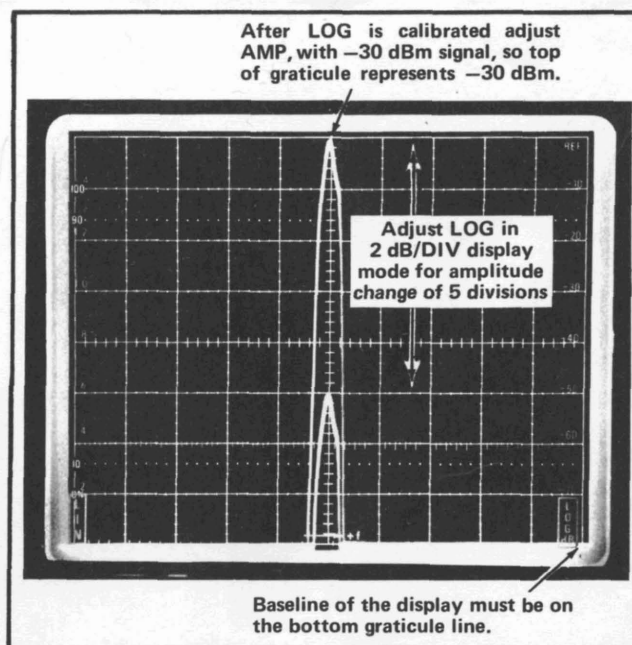

Fig. 2-4. Calibrating the LOG and REFERENCE LEVEL of the display (Double exposure to illustrate the two displays with reference to each other).
d. Adjust the AMP CAL and the LOG CAL (if necessary) to bring the 50 MHz signal within the graticule window. Adjust the AMP CAL to establish a signal reference amplitude of 8 divisions (Fig. 2-4 shows a full screen display).
h. Repeat these steps until the 2 dB/DIV LOG display is calibrated (see Fig. 2-4). Return the RF Attenuator to 0 dB (REFERENCE LEVEL -30 dBm), then adjust AMP CAL to position the top of the -30 dBm signal on the reference line. Ensure that the -30 dBm signal is 8 divisions in amplitude.